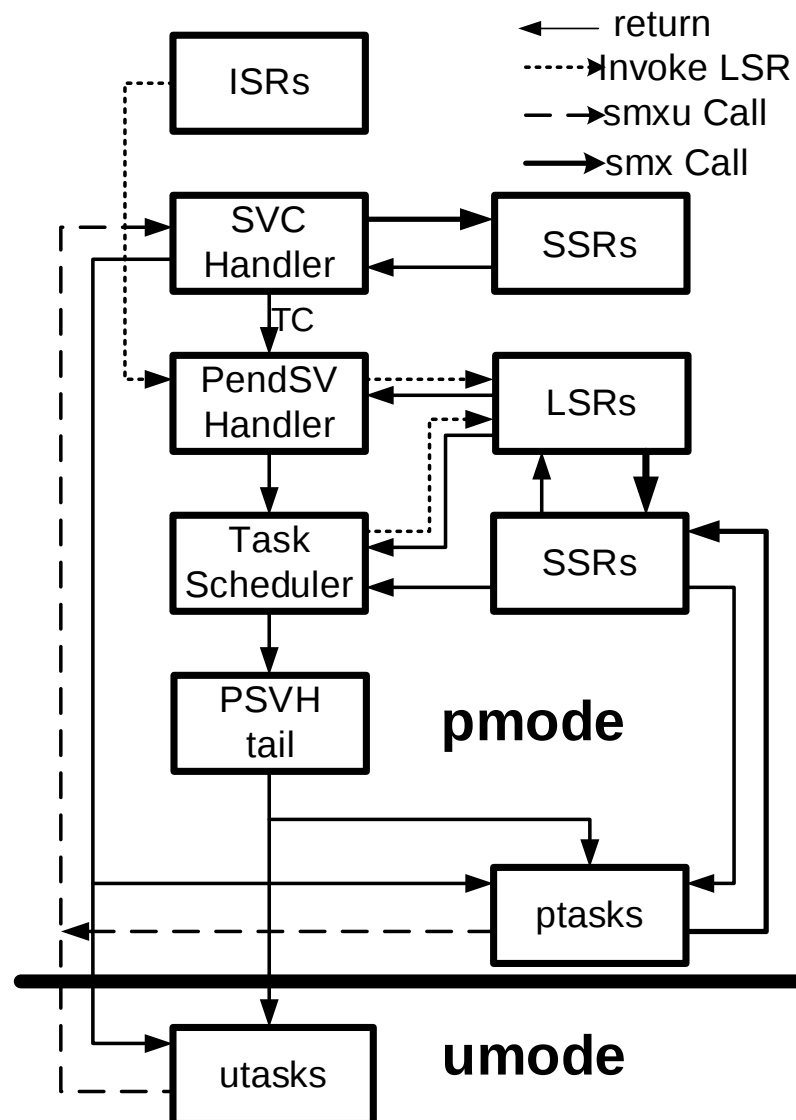

Figure 6.3 System Hierarchy
Figure 6.3 illustrates the relative priorities of objects in a SecureSMX system:
Figure 6.3 illustrates the operation of SecureSMX. This is complicated, but it is helpful to understand the basic concepts:
- LSRs can call System Service Routines (SSRs) but cannot wait on them. For example, an LSR could call *smx_SemSignal()* or it could call *smx_SemTest()* with a 0 wait time. Thus, an SSR returns to the LSR, as shown in Figure 6.3.
- When all LSRs have run and *smx_sched* > 0, PSVH() branches to the Task Scheduler (TS). If *smx_sched* == 0, TS is bypassed (not shown). TS determines if a higher priority task is ready to run, and if so the higher priority task becomes the current task, ct.
- As shown in Figure 6.3, ptasks can make direct SSR calls. If *smx_sched* is not set by the SSR, the SSR returns directly to the ptask. Otherwise, it branches to TS, as shown.
- Both utasks and ptasks can make indirect SSR calls via the SVC Handler (SVCH()). If *smx_sched* is not set by the SSR and *smx_lqctr* is 0, SVCH() returns directly to the utask or ptask. Otherwise, SVCH() *tail chains (TC)* to PSVH().